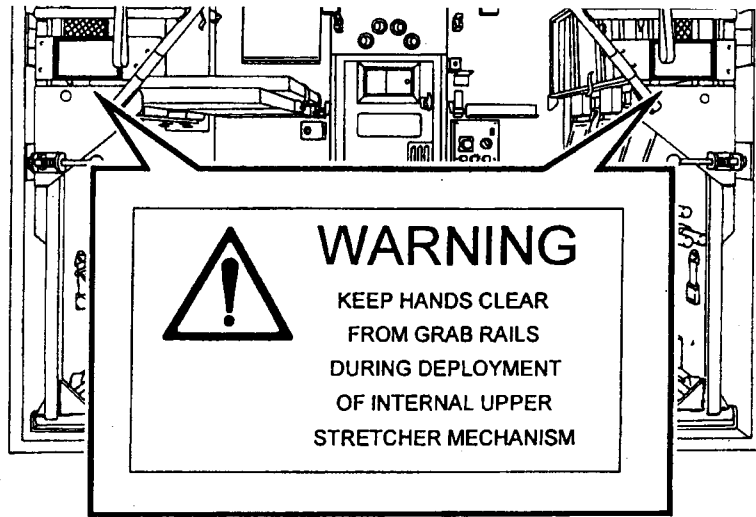

Fig 3 Upper stretcher mechanism warning label
- 8.1 Warning label. To prevent personal injury when deploying upper stretcher mechanism (Fig 3).